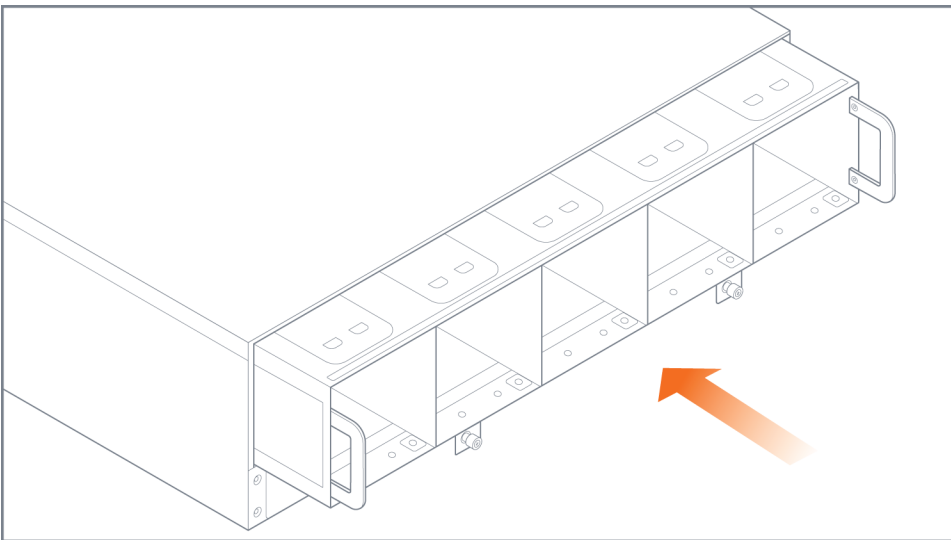

Figure 12: Fan Tray Insertion
2. Place the empty fan tray into the slot and slide it in. Refer to Figure 12: Fan Tray Insertion.